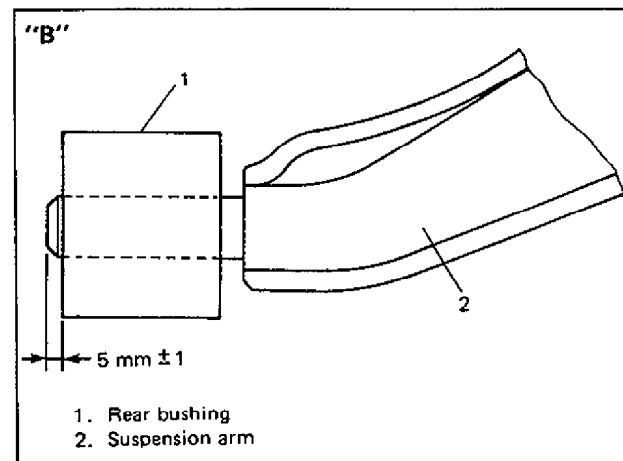

Fig. 3D-5-7
3) Fit suspension arm bracket to suspension arm in such direction as shown in Fig. 3D-5-9 and hand-tighten bracket nut lightly and then install suspension arm bracket to car body. At this point, tighten bracket bolt only lightly by hand.